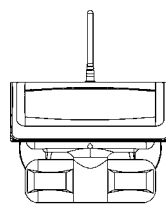

Figure 4
- f. The camera and PIR which under the main solar panel cabinet can be swiveled upward to 5°, downward to 45° (refer to Figure 4) and 90° horizontally (refer to Figure 5)